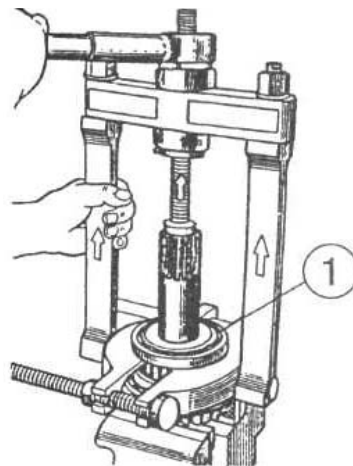

Figure 4.48
f) press bearing 1 off driving shaft of PTO drive (Figure 4.48);